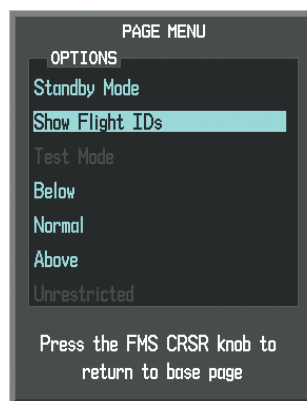

Figure 6-176 Traffic Map Page Menu
- 2) Turn the small **FMS** Knob to select 'Show Flight IDs' or 'Hide Flight IDs' (choice dependent on current state) (Figure 6-176).